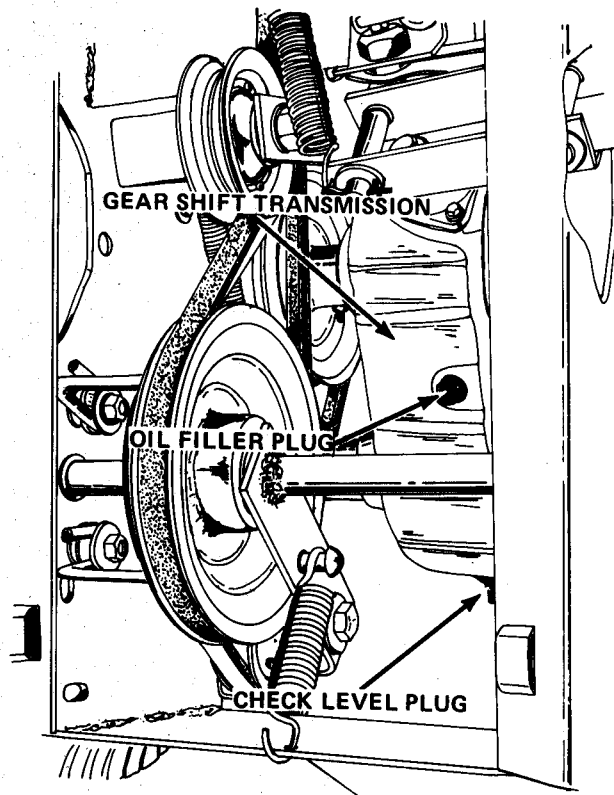

FIGURE 4
Fill the engine crankcase (Figure 4). Use Ariens Gard-N-Yard MS 10W-30 oil when using lawn and garden attachments, use Ariens Sno-Thro oil (SAE 5W-20 MS classification) when using snow removal attachments.
3. Remove check plug, Figure 4. Oil should seep out of the check plug hole. If the level is too low, remove the filler plug and add Ariens MP-90 Premium Gear Lube (SAE 90-EP) weight transmission oil until the level is correct.